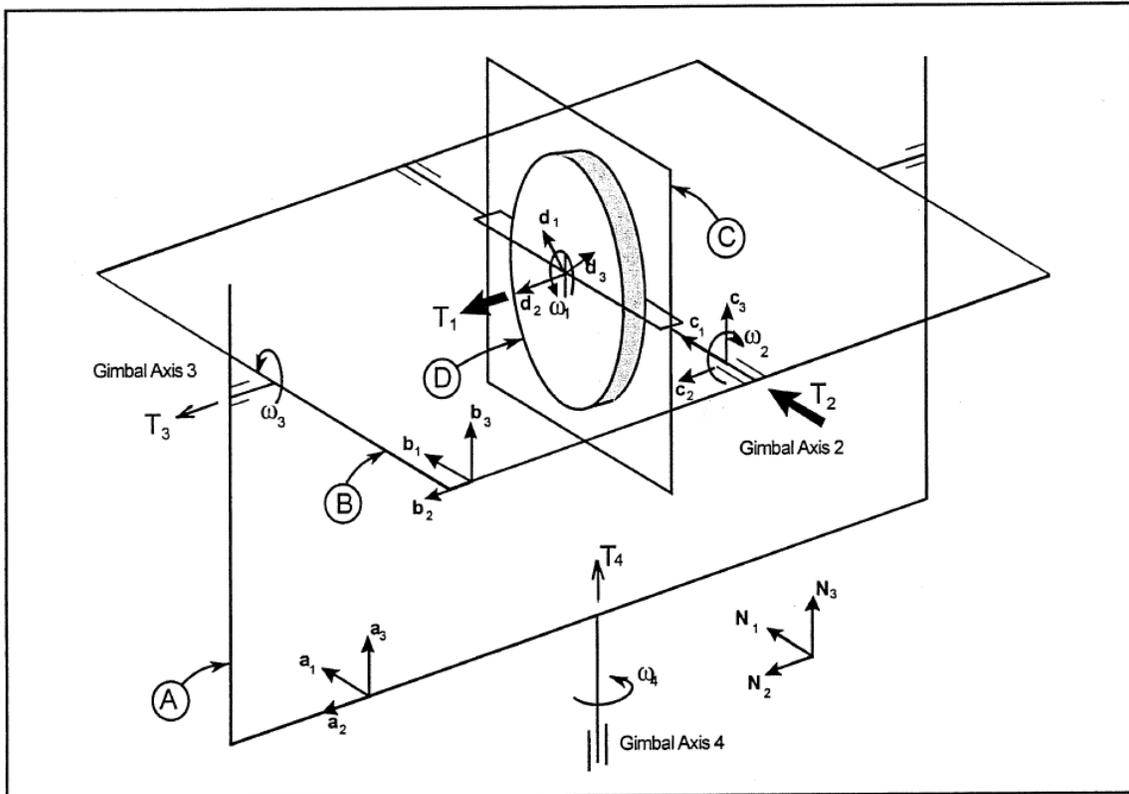

Figure 2: Coordinate System Orientations
Figure 2 above is the orientation setting with which inertias of various bodies are defined. In the figure, four bodies are labeled, A, B, C, and D. Also, three coordinate directions are labeled, 1, 2 and 3; these coordinates or axes are further named I, J and K and used to define various inertias in Table 1-2 on the next page.
In the first part of the lab, students are expected to determine inertia J_C , which is the inertia of body C about coordinate-direction 2 defined in Fig. 2. In this procedure, one may assume that body D rotates as one piece and Bodies C and B together rotate as one piece. Both rotate about coordinate-direction 2 or axis J. The inertia of Body D about direction 2 is given in Table 1-2 as J_D . The inertia of Body B about the same axis is also given in the table as J_B . Now, if one substitutes J_D as J_1 in Eq. (A), then J_2 in the same equation would be equal to J_B+J_C . Thus, one can determine what J_C would be using the equation along with the measurement data of the angular velocities used in this equation.